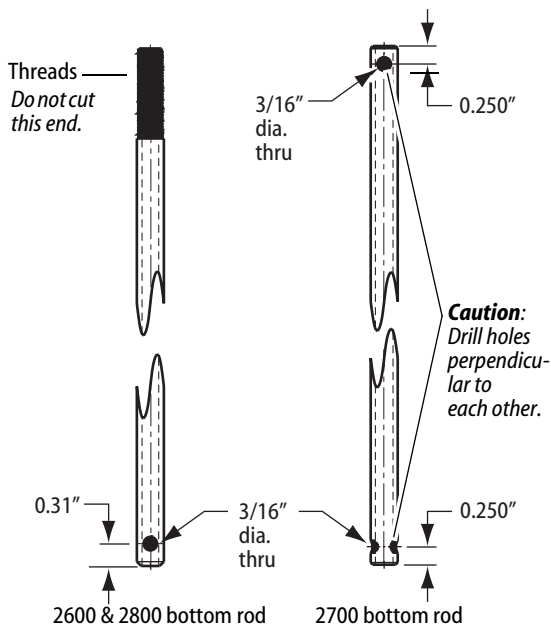

Figure 2 — Drilling the longer bottom rod
- 2 Drill a 0.187 (3/16) inch hole, 0.31 inch from the end as shown in Figure 2.
- 2 Drill a 0.187 (3/16) inch hole, 0.25 inch from the end as shown in Figure 2.
**Caution:** Make sure to drill holes perpendicular to each other. See Figure 2.